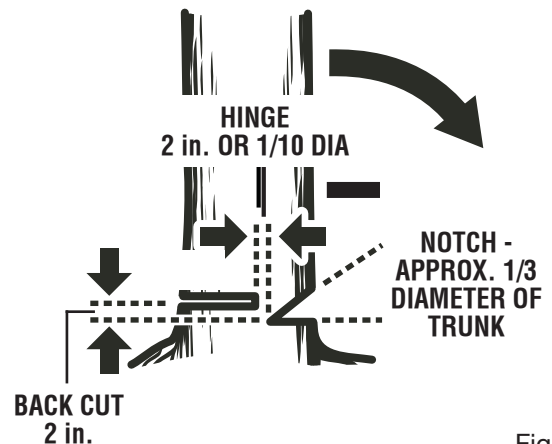

Fig. 14
- **Notched Undercut.** Cut a notch about  $1/3$  the diameter of the tree, perpendicular to the direction of fall. Make the cuts of the notch so they intersect at a right angle to the line of fall. This notch should be cleaned out to leave a straight line. To keep the weight of the wood off the saw, always make the lower cut of the notch before the upper cut. *See Figure 14.*
- **Felling Backcut.** The backcut is always made level and horizontal, and at a minimum of 2 in. above the horizontal cut of the notch. See Figures 14 - 15.
- Never cut through to the notch. Always leave a band of wood between the notch and backcut (approximately 2 in. or 1/10 the diameter of the tree). This is called "hinge" or "hingewood." It controls the fall of the tree and prevents slipping or twisting or shoot-back of the tree off the stump. See Figures 14 - 15.